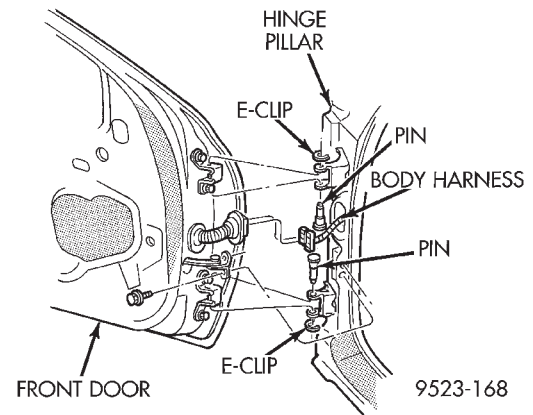

Fig. 42 Front Door
- (1) Open and support door on a suitable lifting device.
- (2) Disengage wire connector at hinge pillar.
- (3) Remove bolts holding door check strap to hinge pillar.
- (4) Remove clip holding hinge pin in lower door hinge (Fig. 42).
- (5) Remove pin from lower hinge.
- (6) Remove clip holding hinge pin in upper hinge.
- (7) Remove pin from upper hinge.
- (8) Separate door from vehicle.